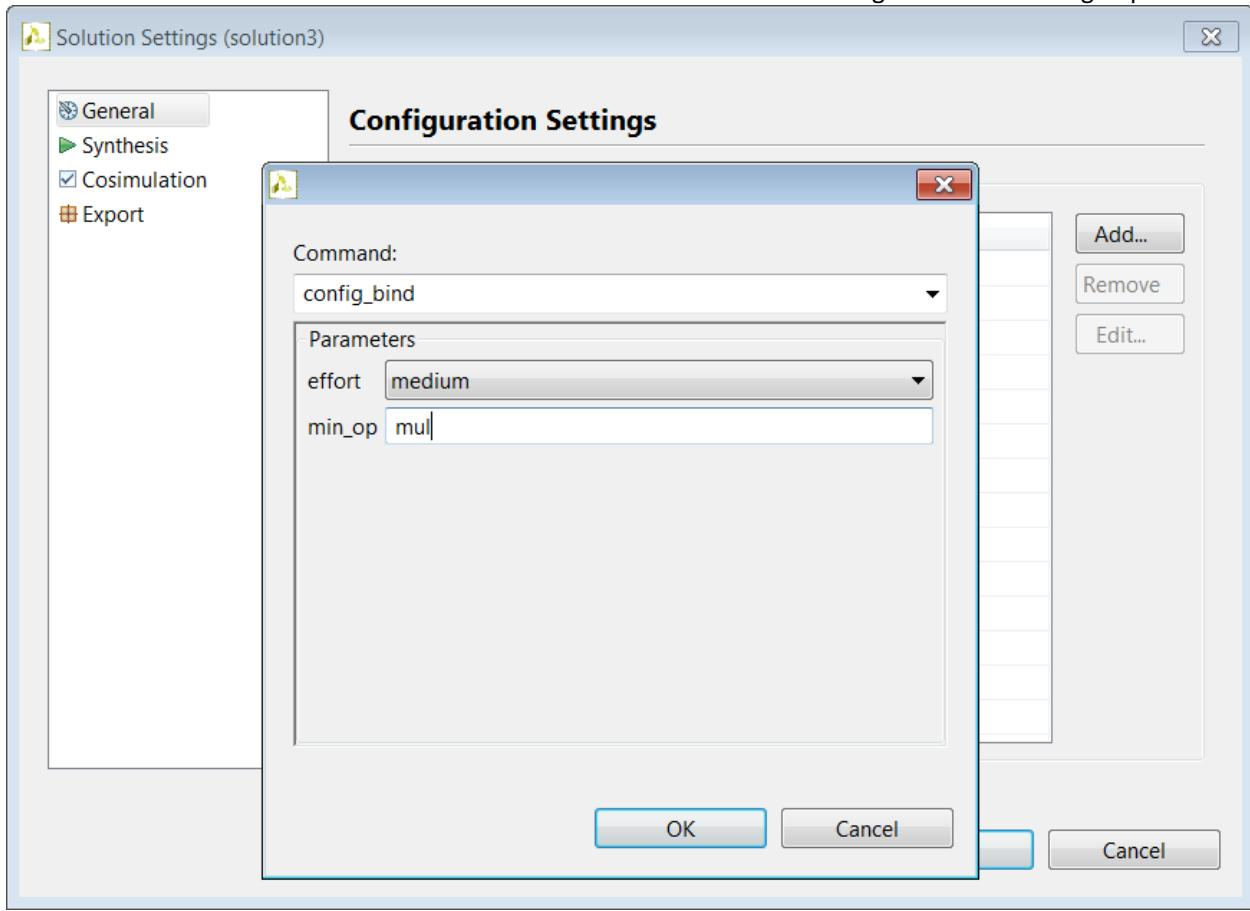

Figure 28: Solution3 Configuration Settings
10. Specify **mul** in the **min_op** (minimize operator) field, as shown in Figure 28.